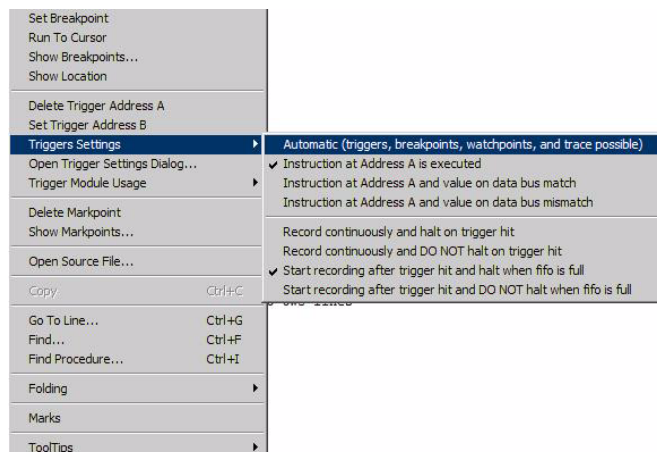

Figure 14. Modify Trigger Settings
1. The trigger can be modified from its default settings. Click on the triggered instruction to select trigger settings. The on-chip debug system allows you to select whether to begin or end recording data on the trigger point (Figure 14).